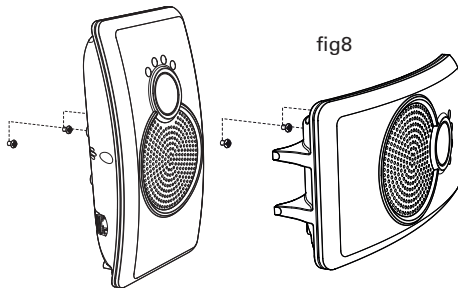

fig8
**Warning:** Make sure that you check for electrical cabling and pipework hidden in the wall before carrying out any drilling). In the pack you will find two screws and two screw anchors. Push the screw anchors (if needed) into the drill holes and secure the screw leaving the heads protruding so that the face of the head is 5mm away from the wall. Now hook the Low Frequency Sounder onto the screws (fig 8).